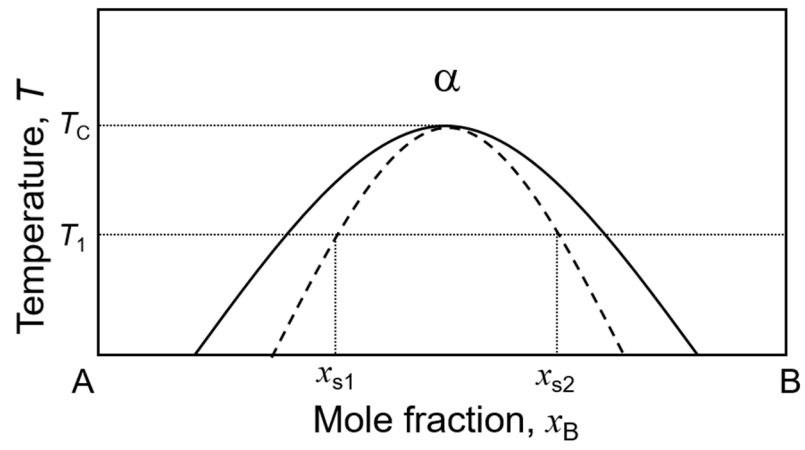

Figure 1
- (1) The dashed line in Figure 1 is called the spinodal curve, which is derived using the second-order partial derivative of  $\textcircled{1}$  with respect to  $x_B$ . Derive an equation for the relationship between  $T$  and  $x_B$ , which represents the spinodal curve.
- (2) Show the upper limit temperature  $T_C$  at which phase separation occurs, using  $\Omega$  and  $R$ .
- (3) In the case of  $\Omega = \frac{8}{3}RT_1$ , obtain the lower limit  $x_{s1}$  and the upper limit  $x_{s2}$  of  $x_B$  where the phase separation by the spinodal decomposition occurs at temperature  $T_1$ .
- (4) Explain the difference in the phase separation process occurring in the region between the solid and dashed curves and the region inside the dashed curve in about 60 words.